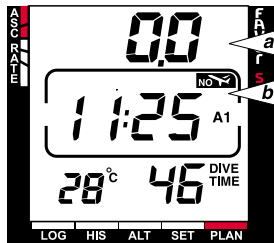

Fig. 3.18 SURFACE MODE AFTER A DIVE, DISPLAY II
Display II (Fig. 3.18)
- The present depth in meters [ft] (Fig. 3.18, a).
- The desaturation/ no-flying time in hours and minutes is shown next to the non-blinking airplane in the center window of the display (Fig. 3.18, b).
The no-flying time is shown in the center window next to the non-blinking airplane image. The blinking airplane is a reminder, when the alternative display showing surface time is on (Figures 3.18 and 3.19). Flying or traveling to a higher altitude should be avoided anytime the airplane symbol is displayed.